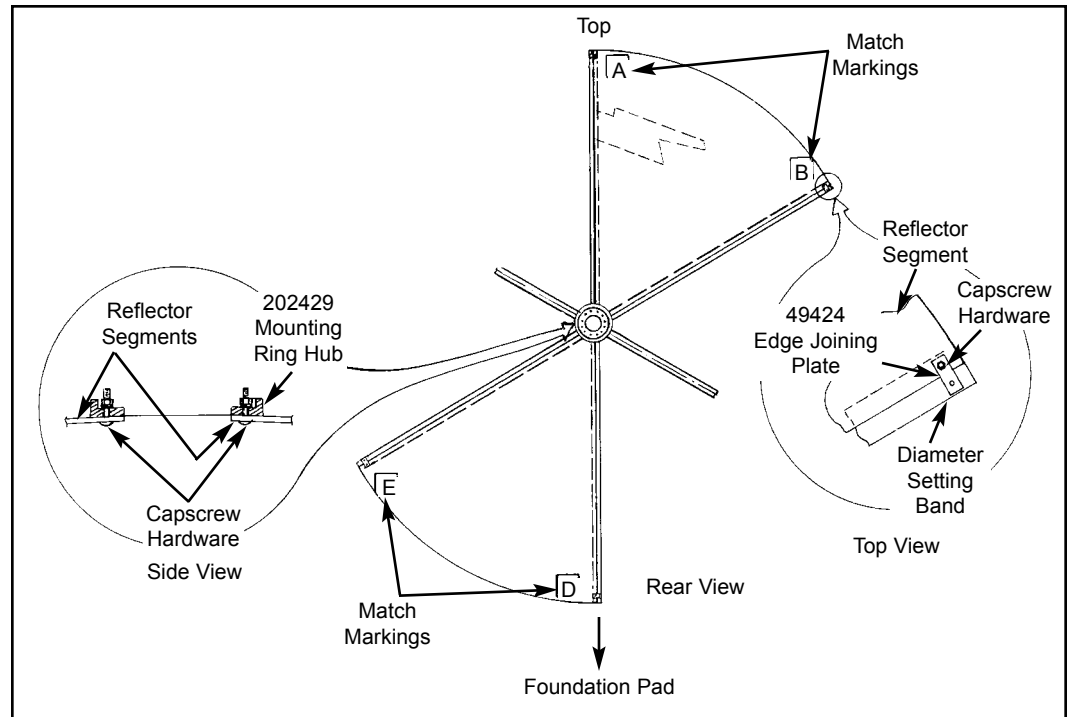

Figure 57
- Step 5** Loosely attach reflector segments **A-B** and **D-E** to diameter setting bands (P/N 49612) with edge joining plates (P/N 49424) and capscrew hardware as indicated in Figure 57.